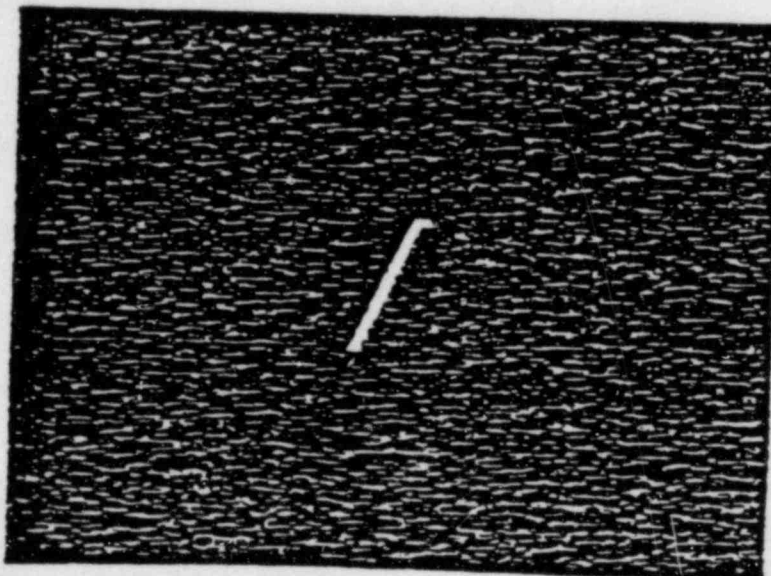

Figure 1
6.3.4 Set upper mix vertical phase until signal is a straight line at approximately 135°. (See Figure 1).
- 6.3.6 As probe is passing back and forward under support, set upper horizontal mix phase until signal is a straight line at approximately 135°. (See Figure 1).